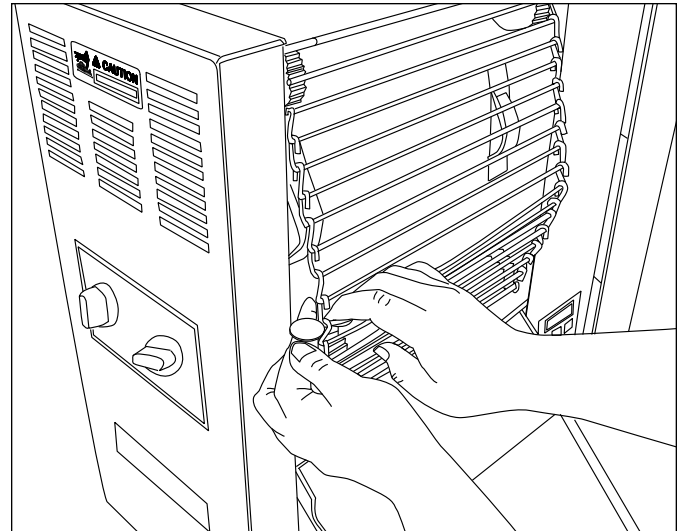

Figure 13. Measuring Conveyor Chain
4. Stand a U.S. Quarter coin (15/16", or 2.5cm horizontally between the chain and the frame (Figure 13).